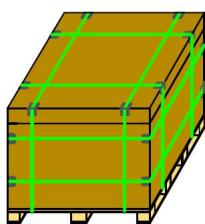

Figure 5-1 Requirements for temporary storage at the installation site
- When storing modules in a warehouse at the project site, please ensure that the storage environment is less than 85% humidity, the temperature range is - 40°C ~ + 50°C, and the modules are statically stacked for 1 box (as shown in Figure 5-1)